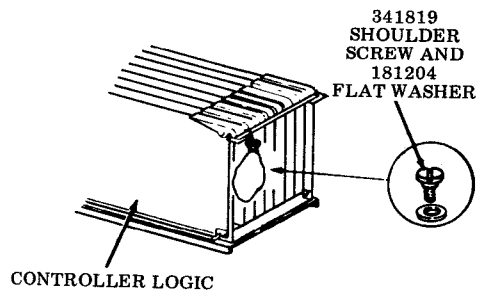

Fig. 50
- Step 9 — Remove muslin bag containing 341819 shoulder screw and 181204 flat washer used to mount the controller logic into frame and retain for later assembly (Fig. 50).